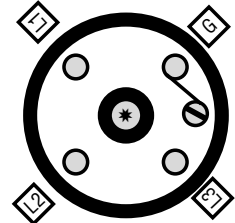

Figure 9
6. Individual terminal blocks with 1/4-20 threaded stud type terminals are provided for each circuit to permit quick positive attachment of circuit wiring conductors (one terminal block per circuit). (Figure 9)